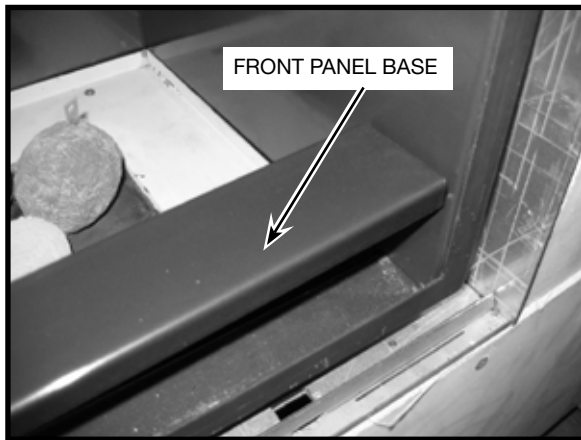

Figure 47: Front panel base.
1. Remove front panel base. Also remove rear panel base if Black Diamond Burner is fitted (Figure 47).